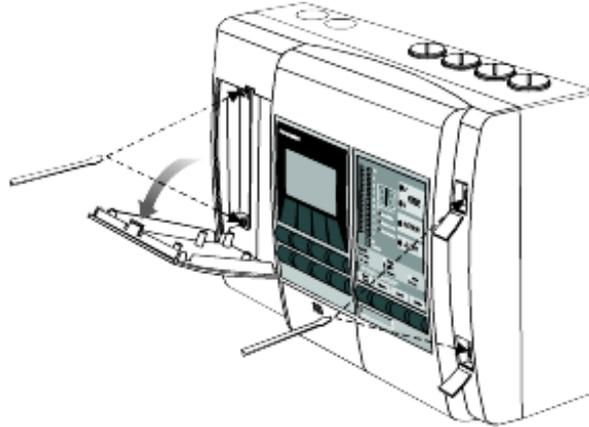

Figure 4: Removing the VLP or VLS front cover for chassis replacement
4. Remove the front panel by first opening the cover plate and screw covers, then unscrewing the cover plate screws as shown in Figure 4 below.
21. Close the detector, refer to Figure 4, "Removing the VLP or VLS front cover for chassis replacement," on page 15.